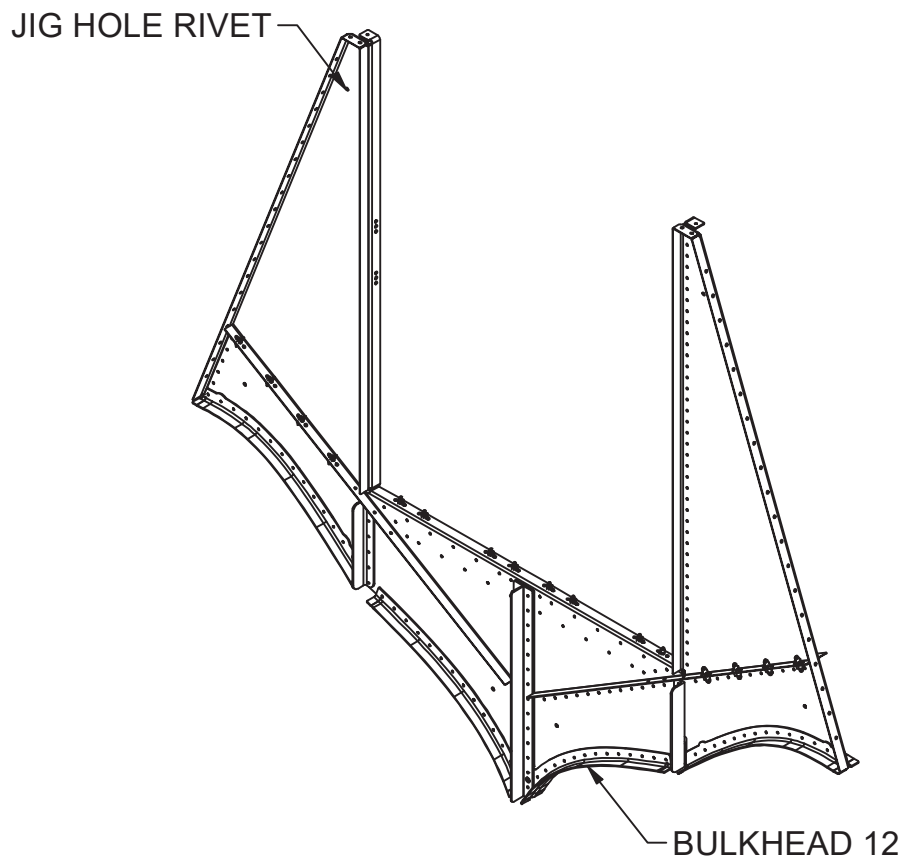

Figure 5
1. Drill out the inboard jig hole rivet located on bulkhead 12, upsize hole to 5/16", and install grommet MS35489-4 (item 25). See Figure 5.